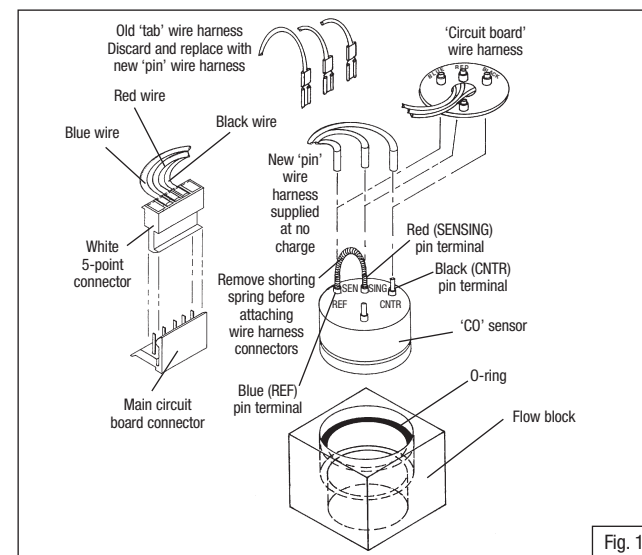

Fig. 1
2. If wires are connected to tab, pin or round circuit board connectors, see Installation Instructions A, (Fig. 1).